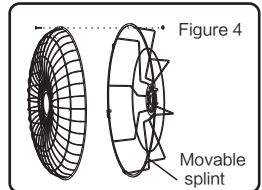

Figure 4
4.Installation of front grill (as shown in Figure 4)